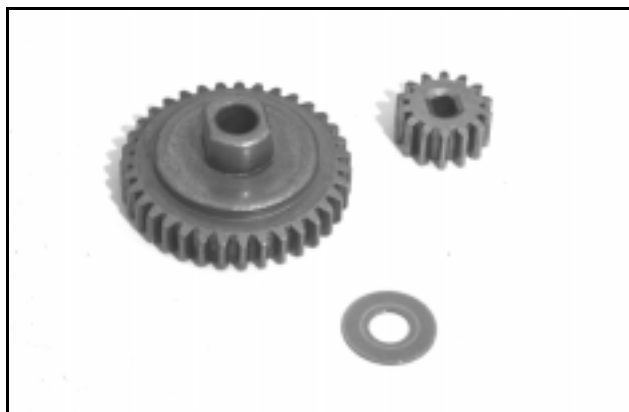

Figure 100
3. Remove the pinion gear, driven gear and thrust washer. Clean all parts thoroughly and inspect for damage or wear. (See Figure 100.)